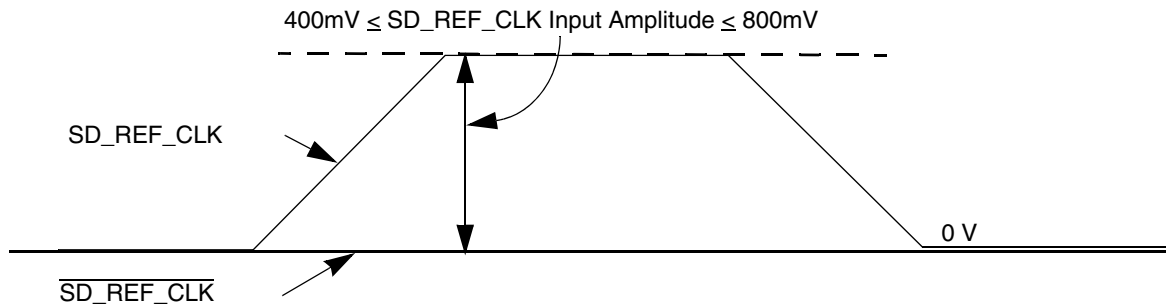

Figure 40. Single-Ended reference clock input DC requirements
- The SD_REF_CLK input average voltage must be between 200 and 400 mV. Figure 40 shows the SerDes reference clock input requirement for single-ended signaling mode.